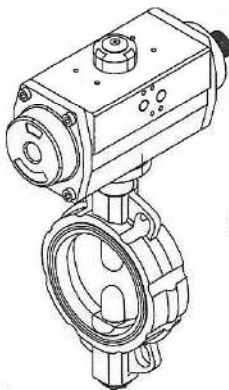
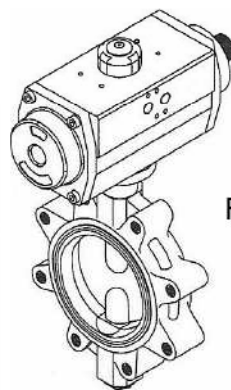
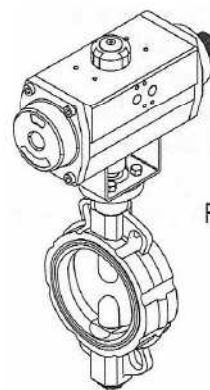
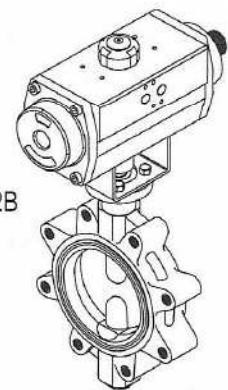

Fig. 1A
Fig.1B
Fig. 2A
Fig. 2B
- Mounting of the actuator on the valve can be carried out directly (figures 1A and 1B) or by using a mounting bracket (figures 2A and 2B).
Mounting the actuator directly onto the valve (Fig.1A and Fig.1B)
Mounting the actuator onto the valve by using a mounting bracket (Fig.2A and Fig.2B)